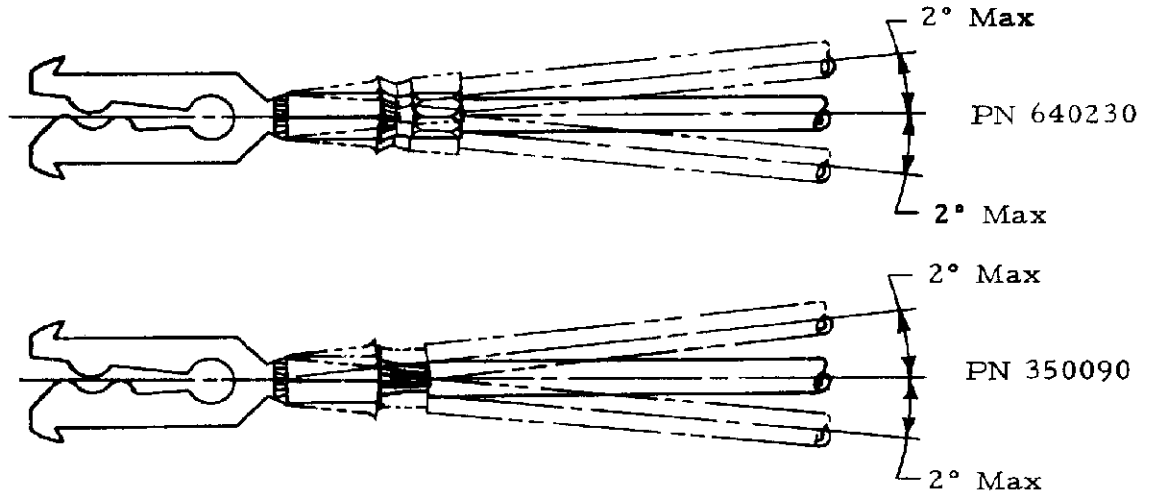

Figure 3
(2) The side to side bending of the contact shall not exceed the limits specified in Figure 3.